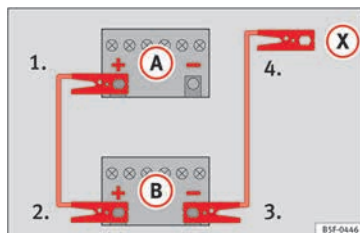

Fig. 78 Diagram of connections for vehicles without Start Stop system
2. Connect one end of the **red** jump lead to the positive (+) terminal of the vehicle with the flat battery **(A)** » **Fig. 78**.
4. *For vehicles without Start-Stop system:* connect one end of the **black** jump lead to the negative terminal (-) of the vehicle providing the current **(B)** » **Fig. 78**.